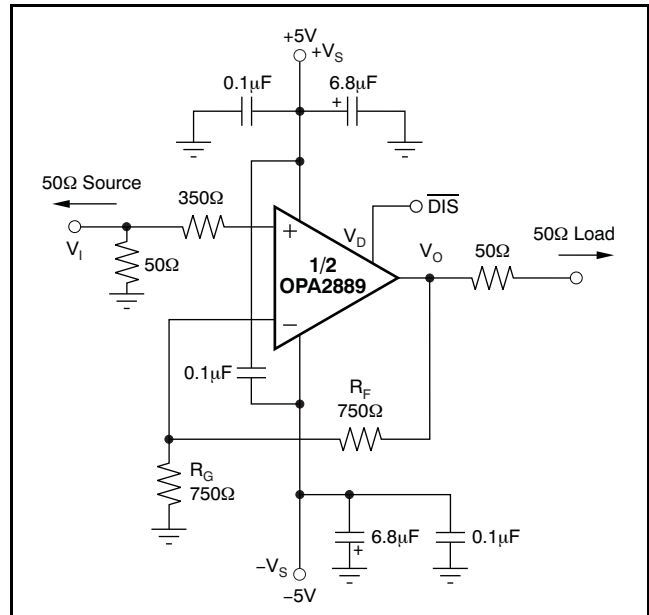
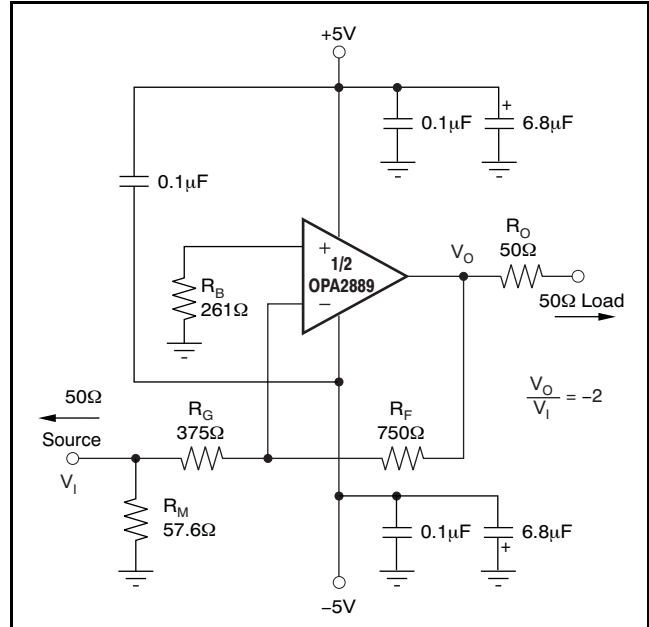

Figure 50. DC-Coupled, G = +2, Bipolar Supply, Specification and Test Circuit
Figure 60. Gain of $-2V/V$ Example Circuit
At $T_A = +25^\circ C$, $G = +2V/V$, $R_F = 750\Omega$, and $R_L = 100\Omega$, unless otherwise noted. See Figure 50.
Figure 50 shows the dc-coupled, gain of +2V/V, dual power-supply circuit configuration used as the basis of the ± 5 V Electrical Characteristics and ± 5 V Typical Characteristics. This illustration is for one channel; the other channel is connected similarly. For test purposes, the input impedance is set to 50 Ω with a resistor to ground and the output impedance is set to 100 Ω . Voltage swings reported in the Electrical Characteristics are taken directly at the input and output pins, while output powers (dBm) are at the matched 50 Ω load. For the circuit of Figure 50, the total effective load will be 100 Ω || 1.5k Ω . The disable control line (MSOP-10 package only) is typically left open for normal amplifier operation. Two optional components are included in Figure 50. An additional resistor (350 Ω) is included in series with the noninverting input. Combined with the 25 Ω dc source resistance looking back towards the signal generator, this resistor gives an input bias current cancelling resistance that matches the 375 Ω source resistance seen at the inverting input (see the DC Accuracy and Offset Control section). In addition to the usual power-supply decoupling capacitors to ground, a 0.1 μ F capacitor is included between the two power-supply pins. In practical printed circuit board (PCB) layouts, this optional-added capacitor typically improves the 2nd-harmonic distortion performance by 3dB to 6dB.
A good rule of thumb is to target the parallel combination of R_F and R_G (see Figure 50) to be less than approximately 400 Ω . The combined impedance $R_F \parallel R_G$ interacts with the inverting input capacitance, placing an additional pole in the feedback network and thus, a zero in the forward response. Assuming a 2pF total parasitic on the inverting node, holding $R_F \parallel R_G < 400\Omega$ keeps this pole above 160MHz. By itself, this constraint implies that the feedback resistor R_F can increase to several k Ω at high gains. This increase in resistor size is acceptable as long as the pole formed by R_F and any parasitic capacitance appearing in parallel is kept out of the frequency range of interest.
Voltage-feedback op amps exhibit decreasing closed-loop bandwidth as the signal gain increases. In theory, this relationship is described by the Gain Bandwidth Product (GBP) shown in the Electrical Characteristics. Ideally, dividing GBP by the noninverting signal gain (also called the Noise Gain, or NG) predicts the closed-loop bandwidth. In practice, this principle only holds true when the phase margin approaches 90°, as it does in high gain configurations. At low gains (increased feedback factors), most amplifiers exhibit a more complex response with lower phase margin. The OPA2889 is compensated to give a slightly peaked response in a noninverting gain of 2V/V (see Figure 50). This compensation results in a typical gain of +2V/V bandwidth of 60MHz, far exceeding that predicted by dividing the 75MHz GBP by 2. Increasing the gain causes the phase margin to approach 90° and the bandwidth to more closely approach the predicted value of (GBP/NG). At a gain of +10, the 8MHz bandwidth shown in the Electrical Characteristics agrees closely with that predicted using the simple formula and the typical GBP of 75MHz.
The frequency response in a gain of +2V/V may be modified to achieve exceptional flatness simply by increasing the noise gain to 2.5V/V. One way to modify the response without affecting the +2V/V signal gain, is to add a 750 Ω resistor across the two inputs, as shown in the circuit of Figure 50. A similar technique may be used to reduce peaking in unity-gain (voltage follower) applications. For example, by using a 750 Ω feedback resistor along
The OPA2889 is a general-purpose, wideband, voltage-feedback op amp; therefore, all of the familiar op amp application circuits are available to the designer. Inverting operation is one of the more common requirements and offers several performance benefits. See Figure 60 for a typical inverting configuration where the I/O impedances and signal gain from Figure 50 are retained in an inverting circuit configuration.
In the inverting configuration, three key design considerations must be noted. The first is that the gain resistor (R_G) becomes part of the signal channel input impedance. If input impedance matching is desired (which is beneficial whenever the signal is coupled through a cable, twisted-pair, long PCB trace, or other transmission line conductor), R_G may be set equal to the required termination value and R_F adjusted to give the desired gain. This consideration is the simplest approach and results in optimum bandwidth and noise performance. However, at low inverting gains, the resultant feedback resistor value can present a significant load to the amplifier output. For an inverting gain of $-2V/V$, setting R_G to 50Ω for input matching eliminates the need for R_M but requires a 100Ω feedback resistor. This approach has the interesting advantage that the noise gain becomes equal to $2V/V$ for a 50Ω source impedance—the same as the noninverting circuits considered in Figure 60. The amplifier output, however, now sees the 100Ω feedback resistor in parallel with the external load. In general, the feedback resistor should be limited to the 200Ω to 1.5kΩ range. In this case, it is preferable to increase both the R_F and R_G values (see Figure 60), and then achieve the input matching impedance with a third resistor (R_M) to ground. The total input impedance becomes the parallel combination of R_G and R_M .
The second major consideration, touched on in the previous paragraph, is that the signal source impedance becomes part of the noise gain equation and influences the bandwidth. For the example in Figure 60, the R_M value combined in parallel with the external 50Ω source impedance yields an effective driving impedance of $50\Omega \parallel 57.6\Omega = 26.7\Omega$. This impedance is added in series with R_G for calculating the noise gain (NG). The resulting NG is $2.86V/V$ for Figure 60, as opposed to only $2V/V$ if R_M could be eliminated as discussed above. Therefore, the bandwidth is slightly lower for the gain of $-2V/V$ circuit of Figure 60 than for the gain of $+2V/V$ circuit of Figure 50.
The third important consideration in inverting amplifier design is setting the bias current cancellation resistor on the noninverting input (R_B). If this resistor is set equal to the total dc resistance looking out of the inverting node, the output dc error, as a result of the input bias currents, is reduced to $(\text{Input Offset Current}) \times R_F$. If the 50Ω source impedance is dc-coupled in Figure 60, the total resistance to ground on the inverting input is 402Ω.
The OPA2889 provides good distortion performance into a 200Ω load on $\pm 5V$ supplies. Relative to alternative solutions, it provides exceptional performance into lighter loads and/or operating on a single +5V supply. Generally, until the fundamental signal reaches very high frequency or power levels, the 2nd-harmonic dominates the distortion with a negligible 3rd-harmonic component. Focusing then on the 2nd-harmonic, increasing the load impedance improves distortion directly. Remember that the total load includes the feedback network; in the noninverting configuration (see Figure 50), this total is the sum of $R_F + R_G$, while in the inverting configuration it is just R_F . Also, providing an additional supply-decoupling capacitor ($0.1\mu F$) between the supply pins (for bipolar operation) improves the 2nd-order distortion slightly (3dB to 6dB). Operating differentially also lowers 2nd-harmonic distortion terms (see the plot on the front page).
Evaluating these two equations for the OPA2889 circuit and component values (see Figure 50) gives a total output spot noise voltage of 18.2nV/√Hz and a total equivalent input spot noise voltage of 9.1nV/√Hz. This total includes the noise added by the bias current cancellation resistor (350Ω) on the noninverting input. This total input-referred spot noise voltage is slightly higher than the 8nV/√Hz specification for the op amp voltage noise alone. This result is the case as long as the impedances appearing at each op amp input are limited to the
previously recommend maximum value of 400Ω. Keeping both ($R_F \parallel R_G$) and the noninverting input source impedance less than 400Ω satisfies both noise and frequency response flatness considerations. Because the resistor-induced noise is relatively negligible, additional capacitive decoupling across the bias current cancellation resistor (R_B) for the inverting op amp configuration of Figure 60 is not required.
The balanced input stage of a wideband voltage-feedback op amp allows good output dc accuracy in a wide variety of applications. The power-supply current trim for the OPA2889 gives even tighter control than comparable amplifiers. Although the high-speed input stage does require relatively low $\pm 0.75\mu\text{A}$ input bias current, the close matching between them may be used to reduce the output dc error caused by this current. The total output offset voltage may be reduced by matching the dc source resistances appearing at the two inputs. This matching reduces the output dc error resulting from the input bias currents to the offset current times the feedback resistor. Evaluating the configuration of Figure 50, and using worst-case +25°C input offset voltage and current specifications, gives a worst-case output offset voltage equal to: